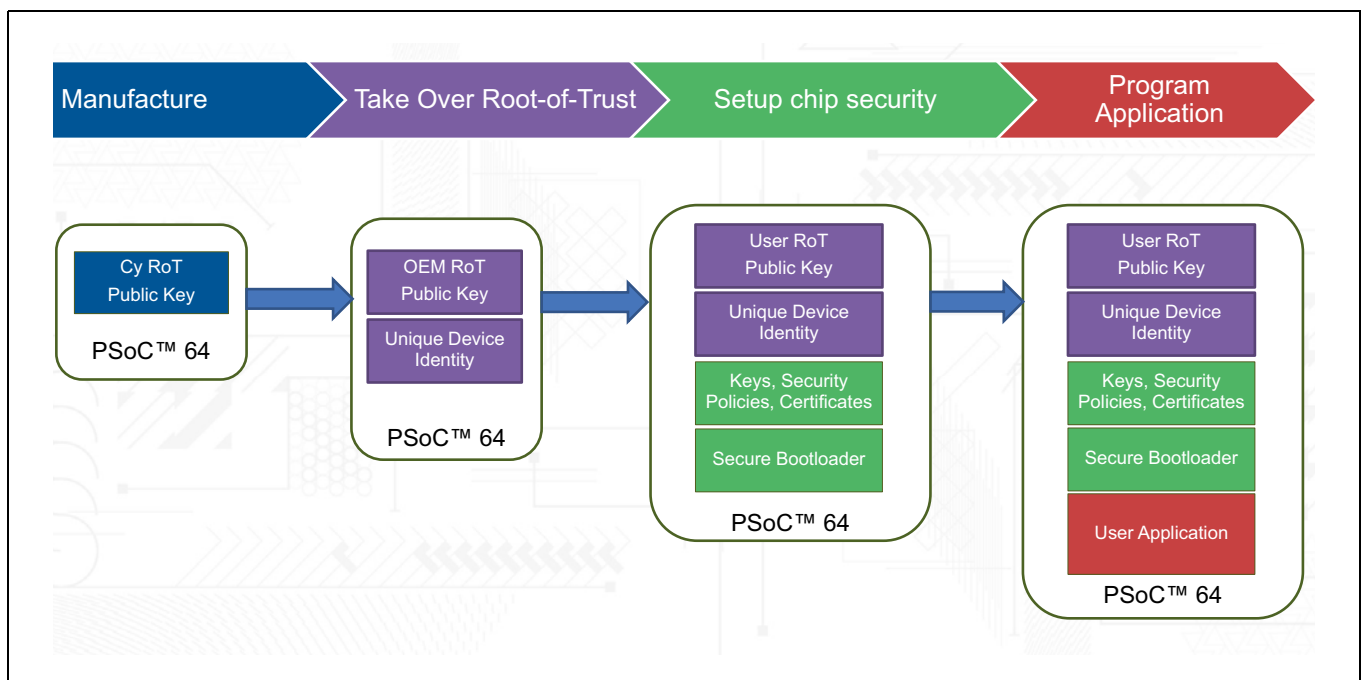

Figure 9 PSOC™ 64 Usage Processes
- Transfer the RoT from Cypress to the user/OEM, as Figure 9 shows